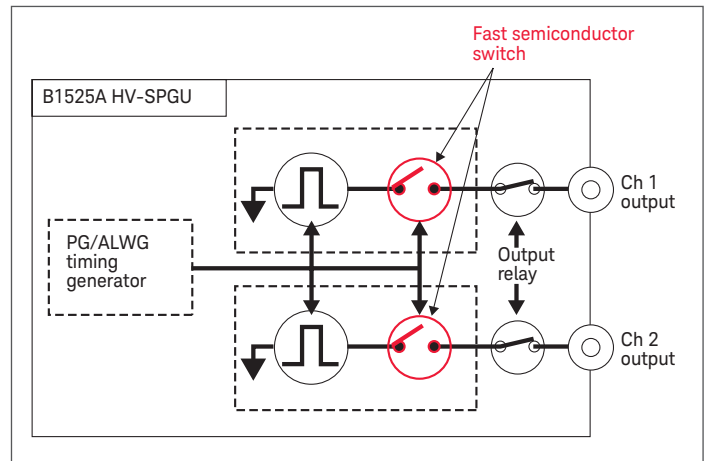

Figure 2. The B1525A HV-SPGU module has two channels, each of which has a fast semiconductor switch in the output path
The pulse switch used to create an open drain status necessary in the erase cycle of a NOR flash cell can respond within 100 μ s, which reduces the total test time required to complete a write/erase endurance lifetime test. A simplified schematic image of the HV-SPGU outputs is shown in Figure 2.
For testing modern NAND flash memory cells, large voltage amplitude pulses and fast rise/fall times are essential. The B1525A HV-SPGU meets these needs with ± 40 V (80 V peak-to-peak) pulse generation capability into a high impedance load (refer back to Figure 2) and a programmable pulse rise/fall time from 8 ns to 400 ns. However, pulse overshoot is also a major concern when testing flash memory cells, and the B1500A has solutions to address this issue.
2. As shown in the HV-SPGU functional diagram in Figure 2, a built-in fast semiconductor switch is available to create an open state to the DUT. The switch is controlled at the firmware (machine) level and synchronized with pulse streams being used to write or erase a flash memory cell. The transition time of the switch from close to open state (or vice versa) is less than 100 μ s.